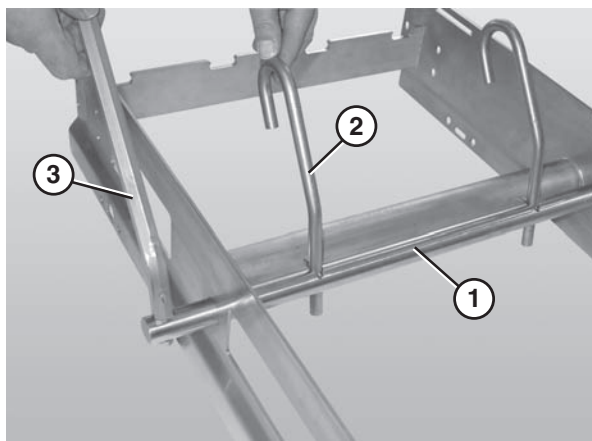

Figure 29
1. Slide the belt lift pivot bar (Figure 29, item 1) through the designated holes in the frame.
2. Attach the lifter bars (Figure 29, item 2) to the belt lift pivot bar (Figure 29, item 1). Make sure the hooked ends of the lifter bars are facing down when resting against the frame.
3. Attach the lifter handle (Figure 29, item 3) to the belt lift pivot rod.